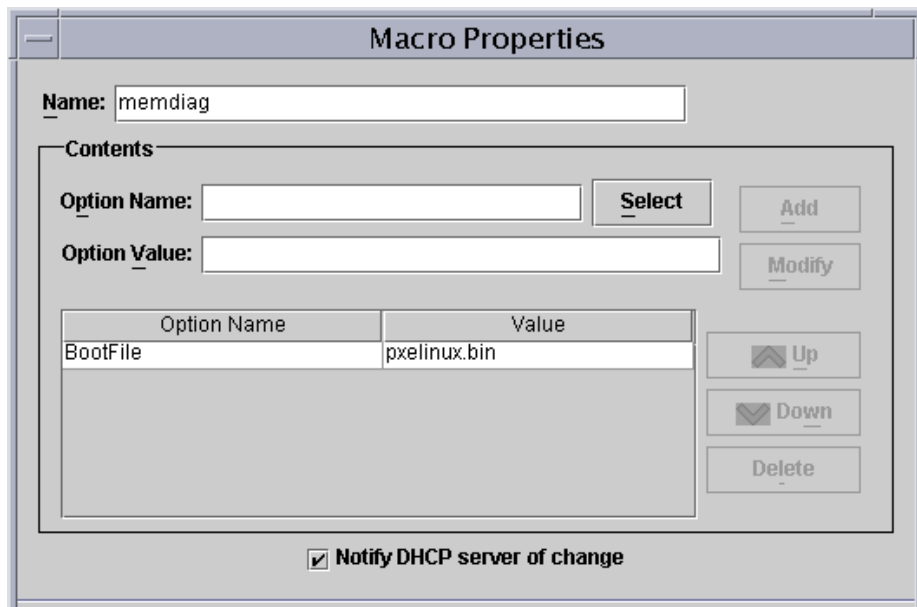

FIGURE 13-2 Macro Properties Window Showing the `memdiag` Macro
6. Create a new macro called `memdiag` containing an option called `BootFile` that has the value `pxelinux.bin` (see FIGURE 13-2).